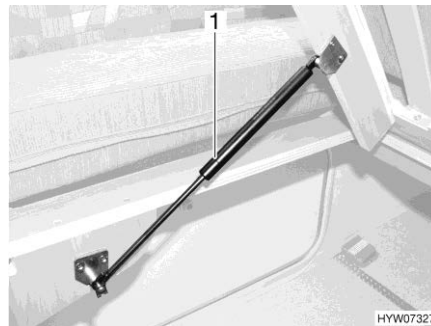

Fig. 135 Fixed bed
- Lift slatted frame. The gas-pressure springs (Fig. 135,1) hold the slatted frame open.